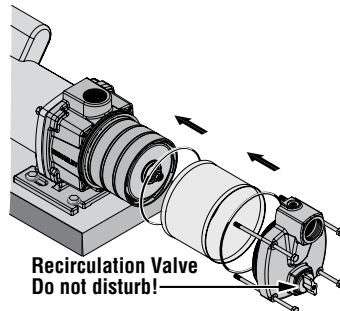

Figure 27
8. Reinstall the sleeve on the bracket and the pump suction body in the sleeve. Be sure that you do not pinch or damage the O-Ring. See Figure 27.